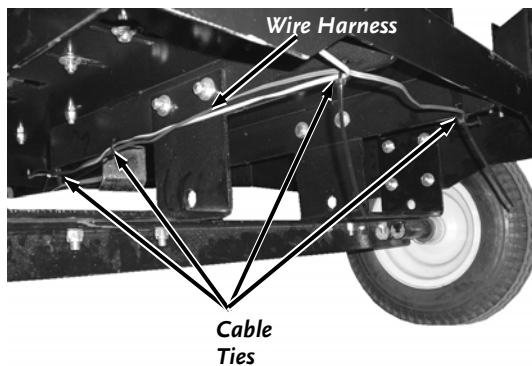

Figure 67
8. Secure the Wires under the Frame with Cable Ties at the four places shown (**Figure 67**).